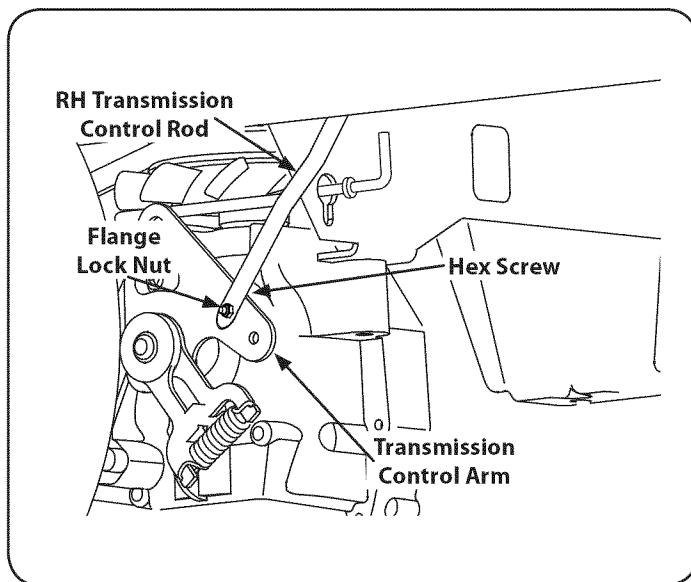

Figure 41
4. If only one wheel is rotating, locate the transmission control rod beneath the frame at the front of the rear tire. If both wheels rotate, locate both control rods. See Figure 41.